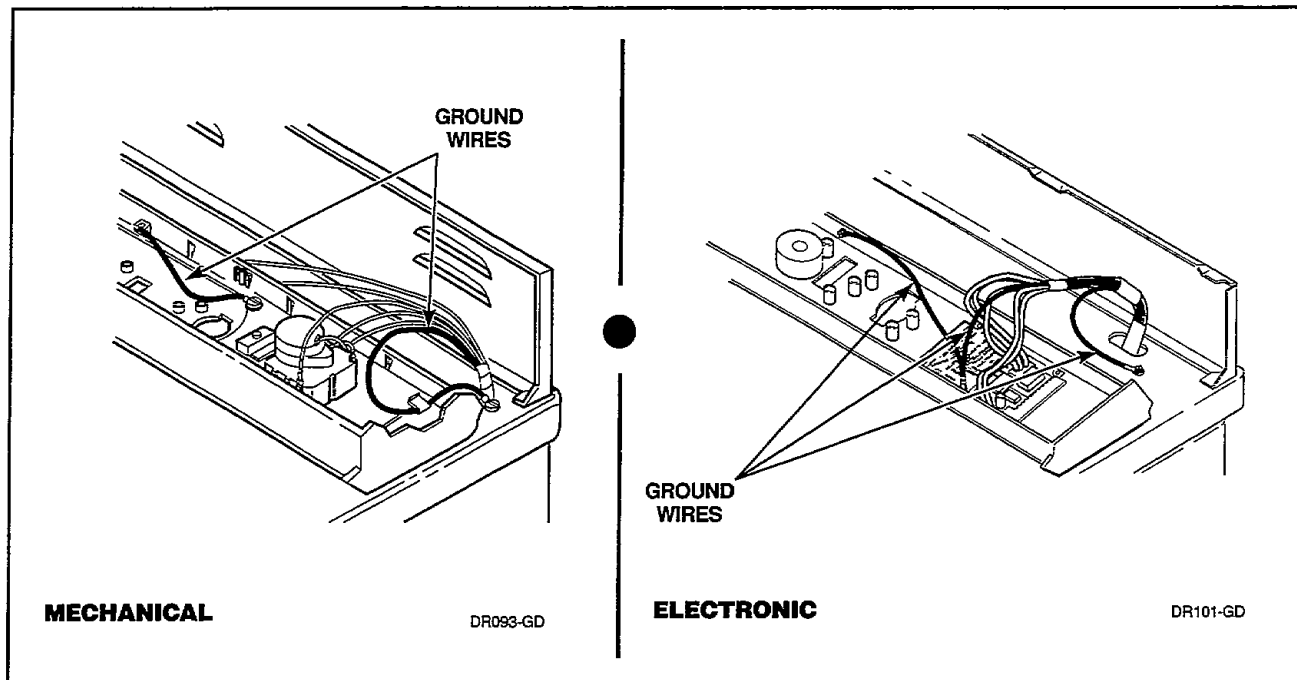

Figure 4
4. FROM REAR BULKHEAD TO TIMER MOUNTING BRACKET TO DRYER CABINET TOP. TIMER MOUNTING BRACKET TO GRAPHIC PANEL (Mechanical Timer Model Dryers — *Figure 4*).
FROM REAR BULKHEAD TO DRYER CABINET TOP TO ELECTRONIC CONTROL TO GRAPHIC PANEL (Electronic Control Model Dryers — *Figure 4*).